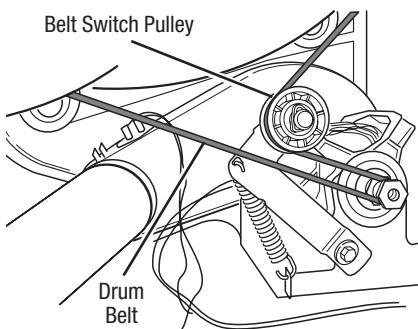

Figure 7. Slowly remove drum belt.
4. Check the belt switch and drive motor. Access the belt switch and drive motor by removing the back panel. Slowly remove the drum belt from the spring-loaded belt switch pulley, gently letting the belt switch pulley down. See figure 7, page 15.